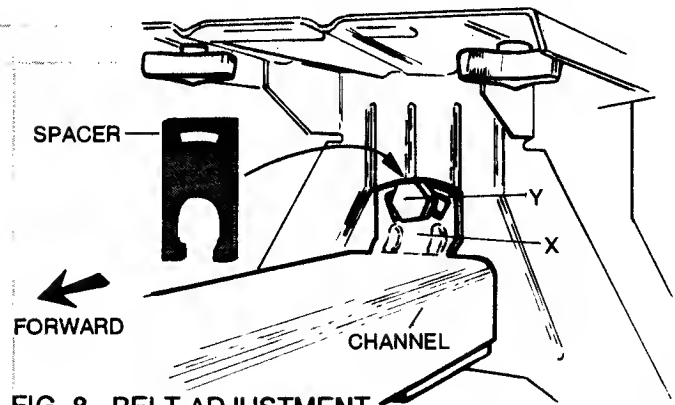
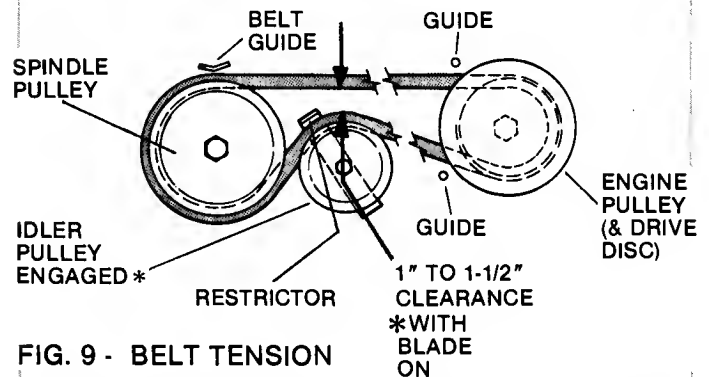

FIG. 8 - BELT ADJUSTMENT
FIG. 9 - BELT TENSION
With the mower deck in the #5 height position and the blade in the ON position, check the distance between the inside surfaces of the belt as shown in FIG. 9. The belt tension is adjusted by changing the "distance" between the front axle and the rear case. Remove the shoulder bolt (Y) (with the two metal spacers) from the main channel tab (X) and pull the front assembly **FORWARD**, increasing the belt tension until the correct amount is achieved. Then remove one or more spacers (as needed) from the hardware bag and align the spacer(s) behind main channel tab (X) and over the tube below it. Insert the shoulder bolt (without the two metal spacers) through the matching holes in spacer(s) and tab (X), and screw it into the front of the rear case - securely tighten! Refer to FIG. 8.
If the belt becomes frayed, cracked, or worn, replace it as follows: Remove the BELT COVER, then cut and remove the old belt. To install a new belt, close the fuel cap (10-C) valve. Stand the mower on the REAR BUMPER (14-C), shift into NEUTRAL, and work the belt between discs, then shift into #5 speed and push belt over edge of engine drive disc. Work belt into the groove of the drive disc, then position other end in pulleys on mower deck as follows: Loosen or remove the idler pulley, loop the belt around spindle pulley as shown in FIG. 9 and work belt between restrictor and idler pulley. Make sure locking tab on restrictor is engaged in idler arm before securing idler arm nut and bolt. Be sure the belt is inside all belt guides. Check and adjust belt tension as needed before reinstalling the BELT COVER.